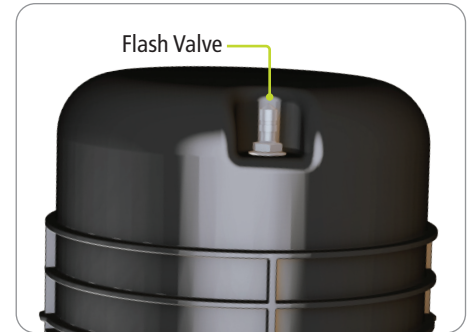

Figure 48
1. Apply maximum of 5 PSI of air to the flash valve on dome. (Figure 48)